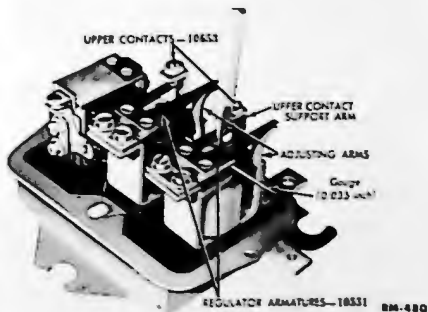

Fig. 11—Setting Regulator Air Gap.
(3) **SET AIR GAP.** Bend the adjusting arm down until the armature spring is clear of the adjusting arm. Place a piece of round stock 0.035 inch in diameter between the armature and core, as shown in fig. 11.